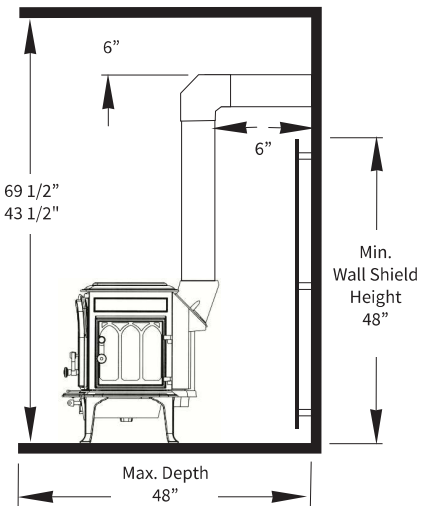

Figure 52. Alcove Ceiling and Double-wall Connector Clearances.
- Min. Ceiling & Connector Clearance, Fig. 52.